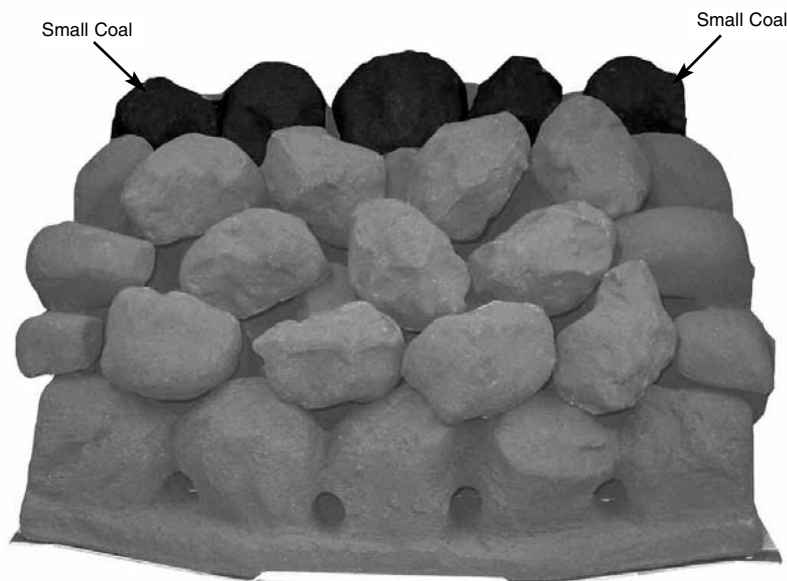

Fig. 20
8. Place the next three coals in the middle, on the back edge of the coals previously laid ensuring even gaps all round. Finally place the two small coals, one in each top corner. Make any adjustments necessary to achieve even gaps as this will help in giving a well balanced flame picture and an even glow (Fig. 20).